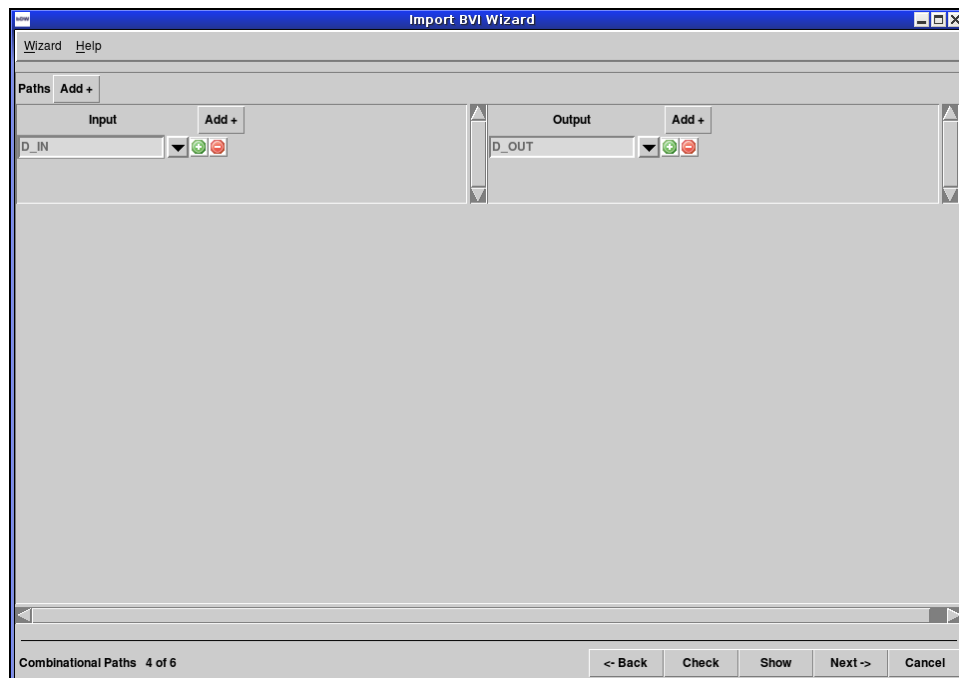

Figure 31: Step 4: Combinational Paths
Step 4 of the wizard, shown in Figure 31, defines the **path** statements. A **path** statement indicates a combinational path from the first port to the second port. The compiler assumes there will be a